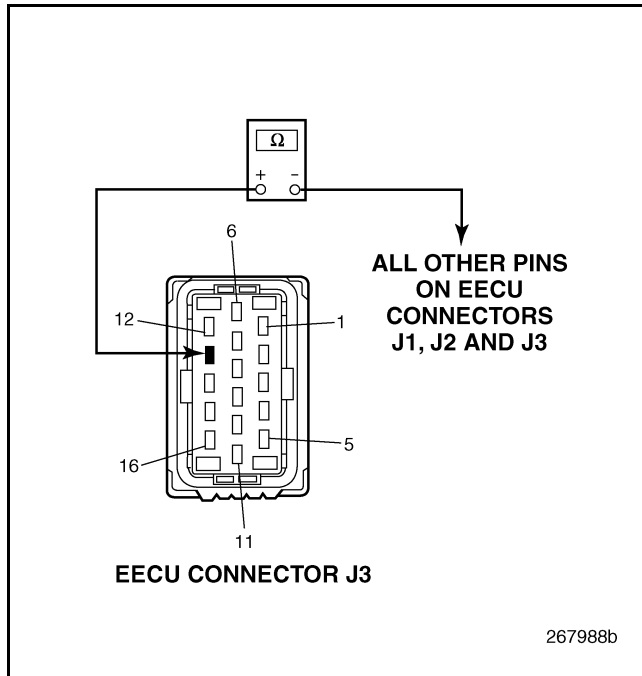

Figure 755
4. Check for continuity between the EECU harness connector J3 pin 13 all other pins on EECU connectors J1, J2 and J3 (see Figure 755).